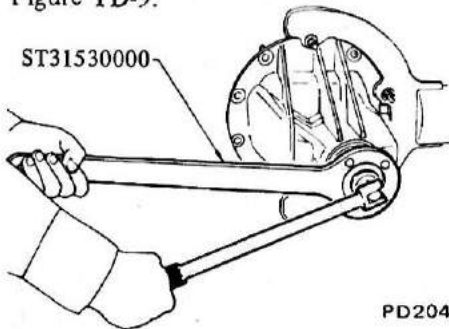

Fig. PD-9 Removing drive pinion nut
2. Remove drive pinion nut using Drive Pinion Flange Wrench ST31530000, and pull off companion flange using a standard puller. See Figure PD-9.